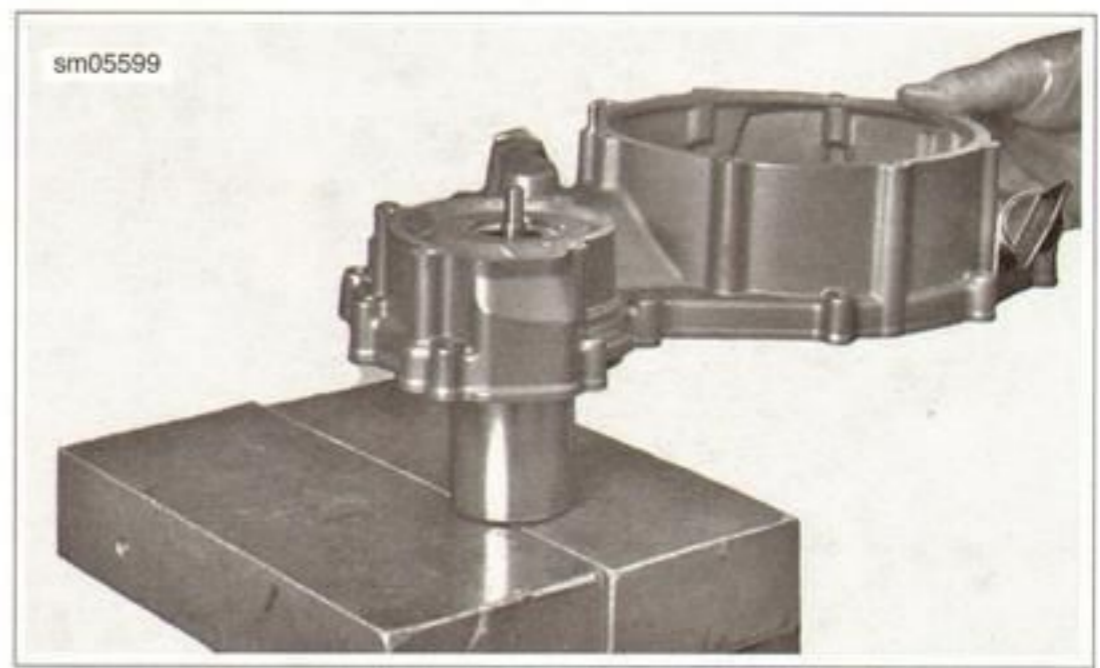

Figure 5-18. Clutch Cover Assembly in Position
6. See Figure 5-18. Position water pump base tool/WATER PUMP SEAL INSTALLER BASE TOOL (Part No. B-49141-4) over water pump drive shaft and invert assembly onto press table.